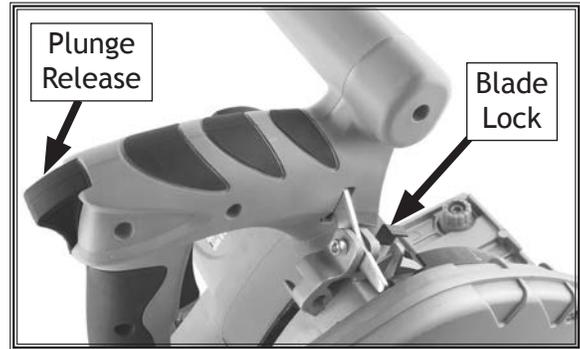

Figure 9. W1835 top view.
2. Engage the plunge release and lower the blade down far enough to expose the arbor bolt. Push the blade lock (see **Figure 9**) and rotate the arbor bolt with a 5mm hex wrench until the blade locks in place.